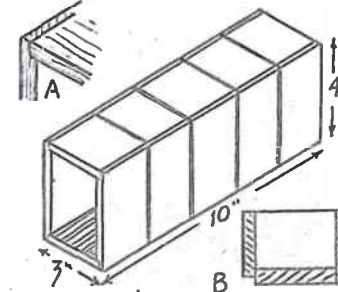

Fig. 1
made as one, as shown in Fig. 1, and afterwards sawn across in sections, each section a separate box. Cut the four sides to length, and form a rebated joint to make into tubular form, as at (A). Note the width of the short sides. Using ¾ in. thick wood, these will be 2½ ins. long, of course, the long sides being rebated at their edges to half thickness.